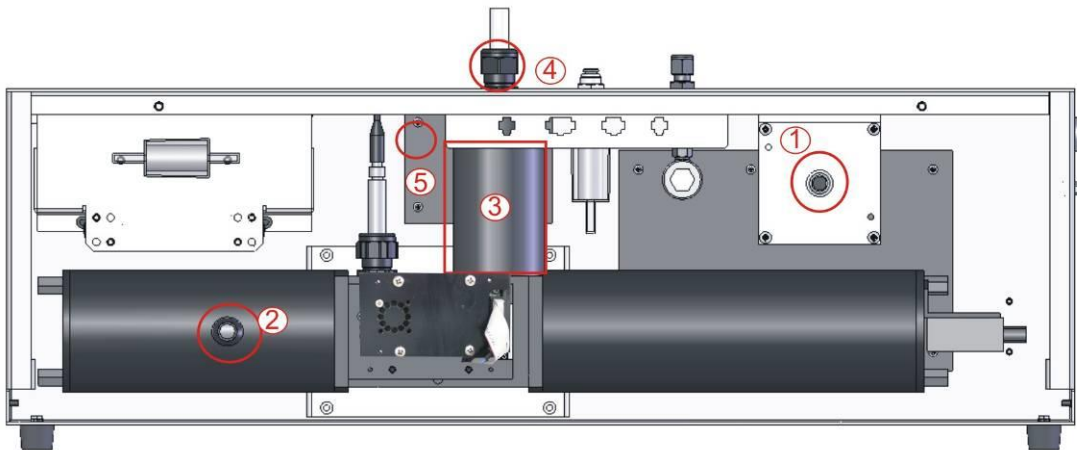

Figure 42 – Internal pneumatic tubing
2. Remove black exhaust tubing from the exhaust fan (1) and the optical chamber (2) as shown in Figure 42.
3. Unscrew the black gland on top of the nephelometer (4).
4. Remove the sample heater from its connector (5) and gently pull the main inlet down until it is out.
In order to clean all parts of the optical chamber, the optical chamber should be completely removed from the nephelometer. This procedure should also include the step for cleaning the Measurement cell as in section 6.3.2. Refer to Figure 42 above for component locations.